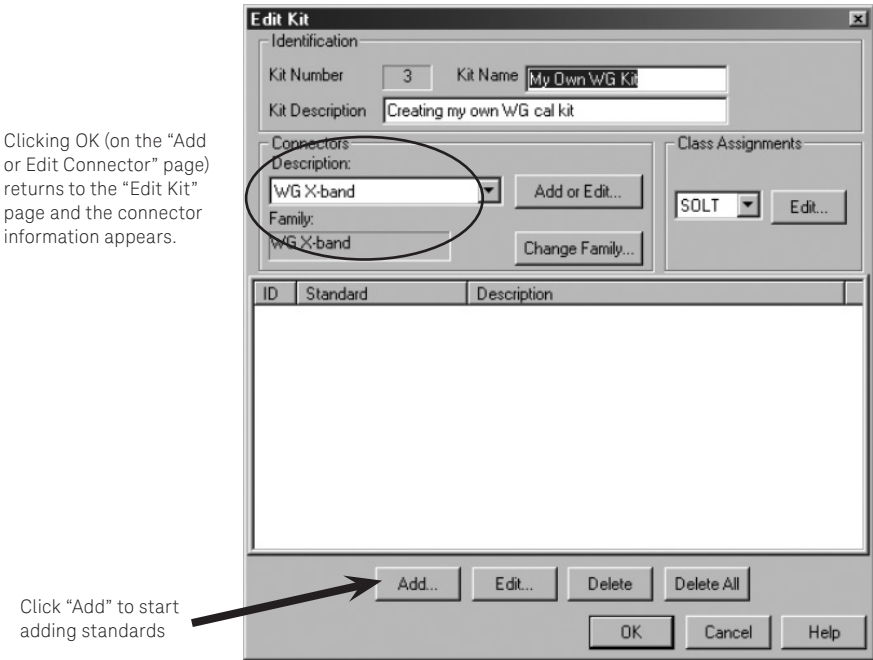

Figure 29. Completed connector description, and start adding standards.
4. Click **OK**. This returns to the “Edit Kit” page (name of the page is shown on the upper-left corner of the dialog box). Click “Add” to start adding standards (Figure 29).